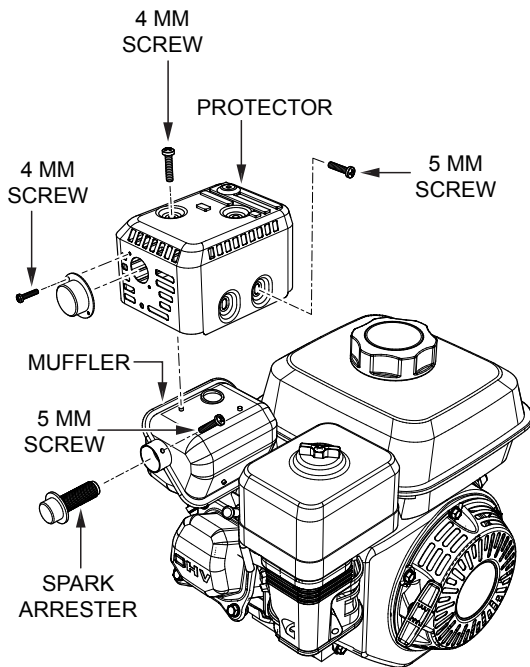

Figure 30. Spark Arrester Removal
1. Remove the 4 mm screw (3) from the exhaust deflector, then remove the deflector. See Figure 30.
2. Remove the 5 mm screw (4) from the muffler protector, then remove the muffler protector.